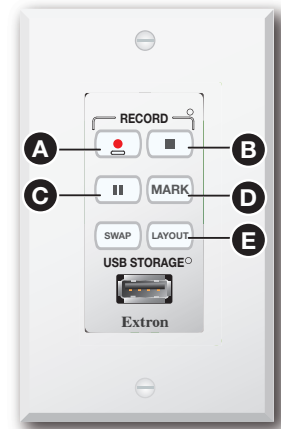

Figure 8. RCP 401 D Front Panel
- b. Select a preset layout for each of the seven presets slots from the drop-down list.The assigned preset layouts can be recalled from the RCP by pressing the RCP **LAYOUT** button (see figure 8, **E** on page 6).
2. If required, select a different layout by pressing the **LAYOUT** button (see figure 8, **E**).